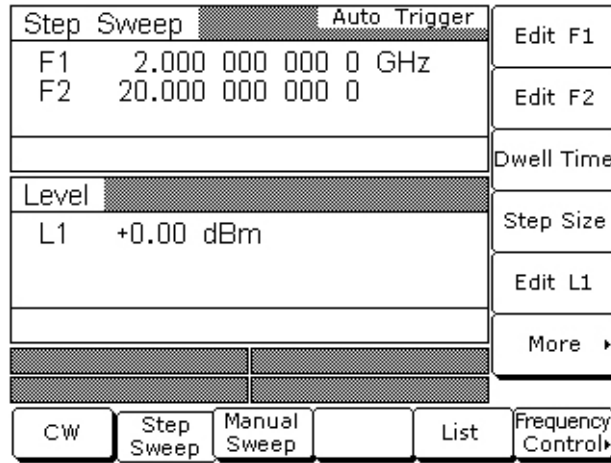

Figure 5-7. Dwell Time
- h. At the Step Sweep menu, press Dwell Time to open the dwell-time-per-step parameter for editing (Figure 5-7).